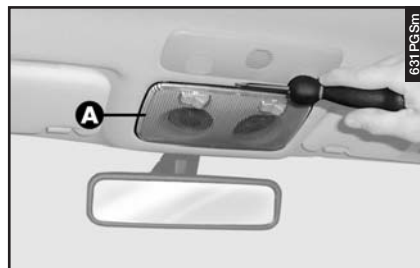

fig. 68
- Remove the roof light (**A-fig. 68**) levering in the point illustrated.